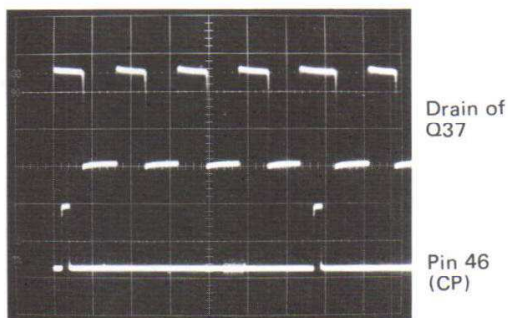

Fig. 4-2-4
- Connect 2 probes of the oscilloscope to Drain of Q37 and pin 46 (CP) of Extension board.
- Trigger the oscilloscope at H rate with using TP1 (HD) on the Mother board.
- Adjust VR4 so that four pulses at Drain of Q37 are put between clamp pulses as shown in Fig. 4-2-4